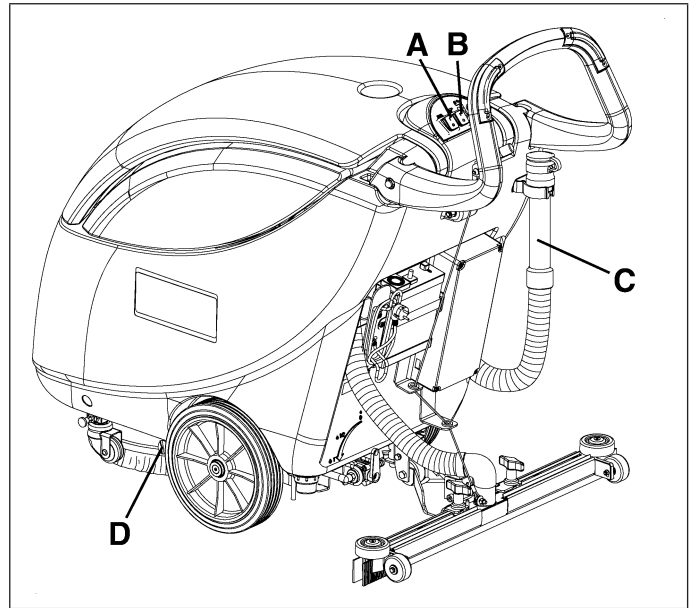
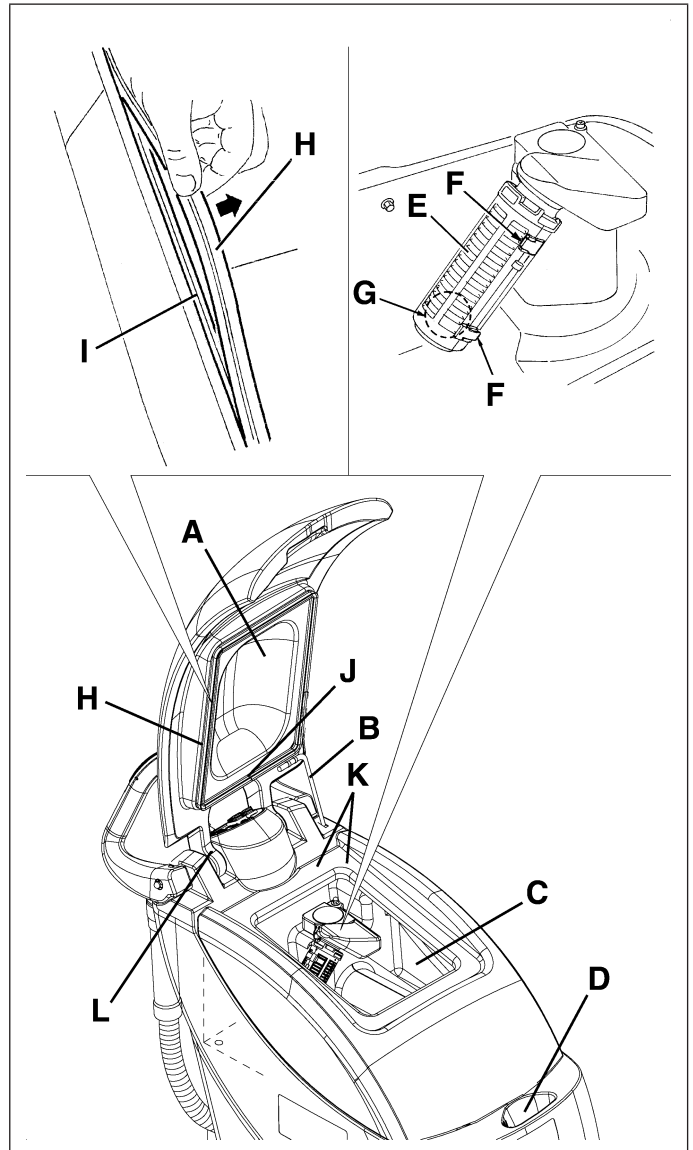

Figure 26
Figure 27
2. Make sure that the switches (A and B, Fig. 26) are in the "0" position.
3. Lift the cover (A, Fig. 27) and apply the cover stand (B), then clean and wash the cover, the tanks (C and D) and the vacuum grid (E) with clean water. Drain the water from the tanks by means of the drain hose (C, Fig. 26) and valve (D).
4. If necessary, release the retainers (F, Fig. 27), open the vacuum grid (E), remove the float (G), then carefully clean and reinstall them.
5. Check the cover sealing gasket (H, Fig. 27) of the recovery tank for wear.
The gasket (H, Fig. 27) creates vacuum in the tank, which is necessary for the vacuuming of the recovery water.
If necessary, replace the gasket (H, Fig. 27) after removing it from the housing (I).
When reassembling the new gasket, install the joint (J) in the central area, as shown in Fig. 27.
6. Check the gasket (H, Fig. 27) seating surface (K) for integrity and sealing capabilities.
7. Check the vent hole (L, Fig. 27). If clogged, clean it.
The hole (L, Fig. 27) compensates the air in the cover interspaces, thus allowing the creation of vacuum in the recovery tank.
8. Remove the cover stand (B, Fig. 27) and close the cover (A).